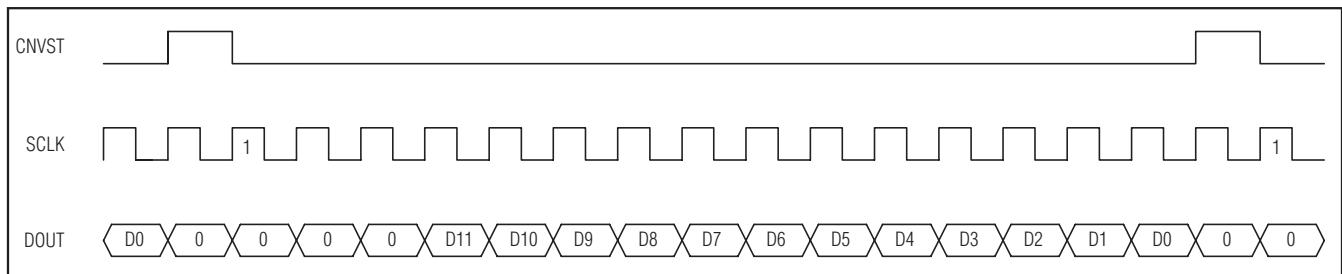
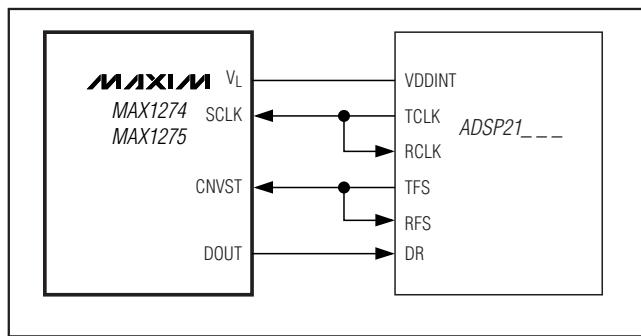

Figure 17. DSP Interface—Continuous Conversion
Figure 19. Interfacing to the ADSP21\_--
The MAX1274/MAX1275 can also be connected to the TMS320C54\_ by using the data transmit (DX) pin to drive CNVST and the CLKX generated internally to drive SCLK. A pullup resistor is required on the CNVST signal to keep it high when DX goes high impedance and 0001hex should be written to the DXR continuously for continuous conversions. The power-down modes may be entered by writing 00FFhex to the DXR (see Figures 17 and 18).
The MAX1274/MAX1275 can be directly connected to the ADSP21\_ family of DSPs, Inc. Figure 19 shows the direct connection of the MAX1274/MAX1275 to the ADSP21\_. There are two modes of operation that can be programmed to interface with the MAX1274/MAX1275. For continuous conversions, idle CNVST low and pulse it high for one clock cycle during the LSB of the previous transmitted word. The ADSP21\_ STCTL and SRCTL registers should be configured for early framing (LAFR = 0) and for an active-high frame (LTFS = 0, LRFS = 0) signal. In this mode, the data-independent frame-sync bit (DITFS = 1) can be selected to eliminate the need for writing to the transmit-data register more than once. For single conversions, idle CNVST high and pulse it low for the entire conversion. The ADSP21\_ STCTL and SRCTL registers should be configured for late framing (LAFR = 1) and for an active-low frame (LTFS = 1, LRFS = 1) signal. This is also the best way to enter the power-down modes by setting the word length to 8 bits (SLEN = 1001). Connect the VL pin to the ADSP21\_ supply voltage when the MAX1274/MAX1275 are operating with a supply voltage higher than the DSP supply voltage (see Figures 17 and 18).